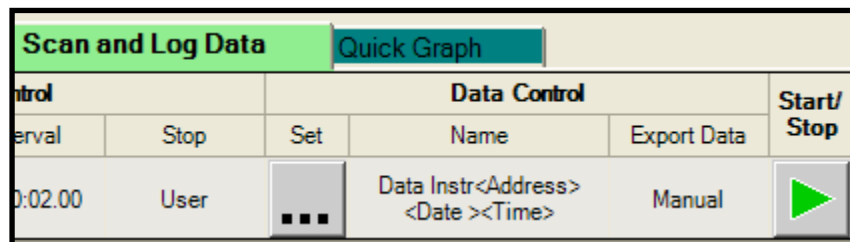

Figure 16 – Starting the scan
- Now start the scan by pressing the green **Start/Stop** button (figure16).